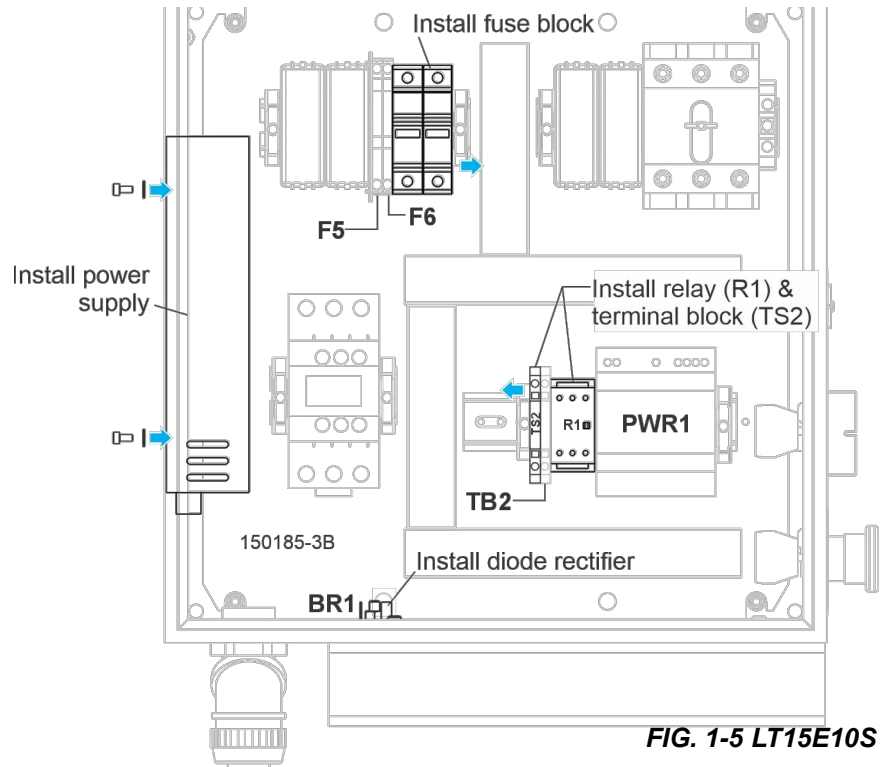

FIG. 1-5 LT15E10S
3. Install the fuse block to the DIN rail to the right of fuses F5 & F6. See Fig. 1-5.
7. Locate the end clamp to the left of terminal block TB2 beside the power supply (PWR1). See Fig. 1-5.
15. Secure with the previously removed 4mm bolts and lock washers. See Fig. 1-5.